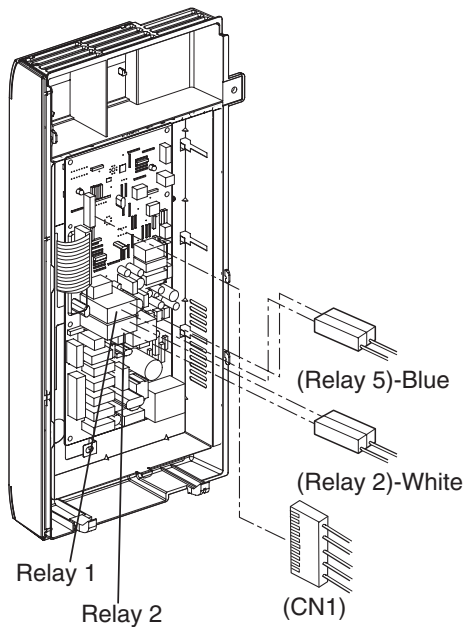

Figure 1
A. REMOVING POWER AND CONTROL CIRCUIT BOARD (Figures 1, 2 and, 3)
- (1) Remove the a screw securing the control panel assembly to the oven cavity.
- (2) Remove the control panel by pushing it upward.
- (3) Remove the connectors (cn1,cn3,cn5) and wire leads (RY1,RY2) from the circuit board.
- (4) Remove 5 screws securing the circuit board.